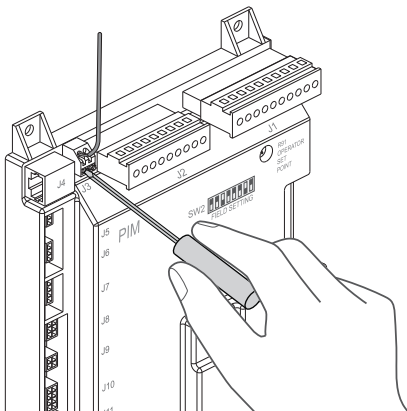
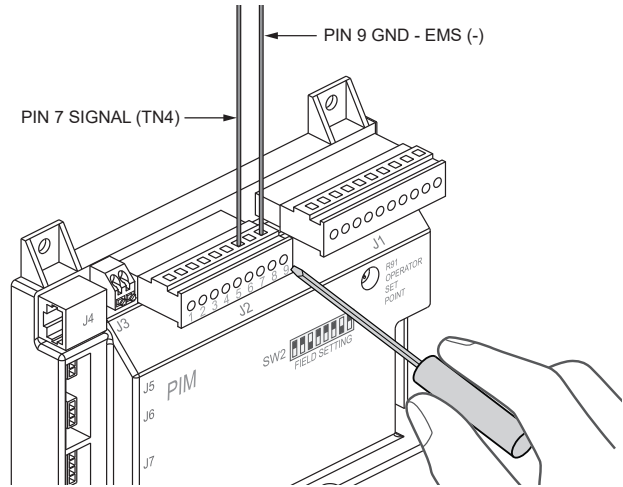

Figure 53. Ft_Bus Wire Connection
Figure 54. TN_Bus Wire Connection
2. To enable this remote control function, set DIP switch #5 on the PIM to the UP position. DIP switch #5 toggles between an EMS ON (UP) signal or a demand signal from the VERSA Control Board OFF (DOWN). Using DIP switch #2 on the PIM, select between Direct Drive (UP) for firing rate or Target Temperature (DOWN) for setpoint.
4. For use of a 4-20mA signal, DIP switch #6 must be in the ON (UP) position and a 500 OHM 1/2 watt resistor wired in parallel across the input wires.
5. Connect an Energy Management system or other auxiliary control signal to the terminals marked 0-10V (+/-) on the PIM. See **Figure 43 on page 53**. Caution should be used to ensure that the +0-10V connection does not create a short to ground. See **Figure 53 on page 60**. See **Table P on page 65**.
The first 4 units use the FT bus configuration. See **Figure 53**. The additional 4 units can be expanded via the TN Bus configuration. See **Figure 54**.
For FT bus communication wiring see **Figure 53**. For TN bus units communication see **Figure 54**. Note TN_bus unit communication only require one wire and ground in common.
Connect the Cascade Ft_bus wires to the PIM by pressing down on the slots with a small screwdriver and then inserting the wires into the holes. See **Figure 53**.
Connect the Cascade TN_bus wire to PIM terminal J2-7. It is required for this connection that all PIM's are reference to same communication ground terminal. Connect all grounds in common as shown in **Figure 54**.